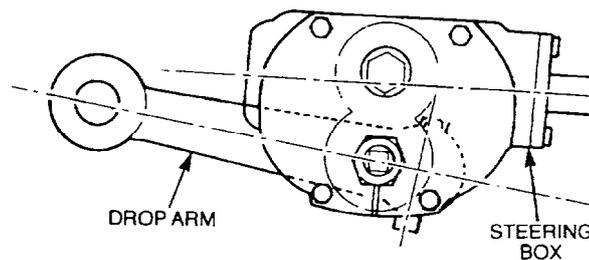

Figure 274 Drop-arm Alignment
- r. With the sector shaft in the straight ahead position, fit the drop arm aligning the master drive spline and check the position of the arm to the housing (Figure 274). Fit a new lock-washer. Install and tighten the nut to 169 N.m (125 lbf.ft).